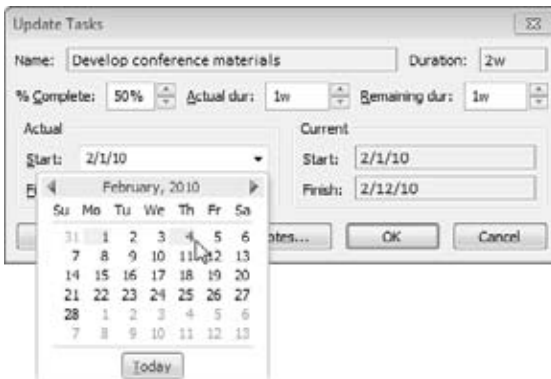

Figure 14-6:
3. Under Actual, click the arrow in the Start box, and then choose the actual start date from the calendar drop-down menu, as shown in Figure 14-6. Do the same in the Finish box to set the actual finish date.